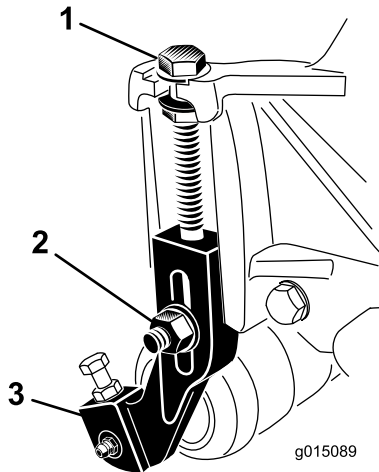

Figure 18
1. Loosen the locknuts securing the height-of-cut brackets to the cutting-unit side plates (Figure 18).